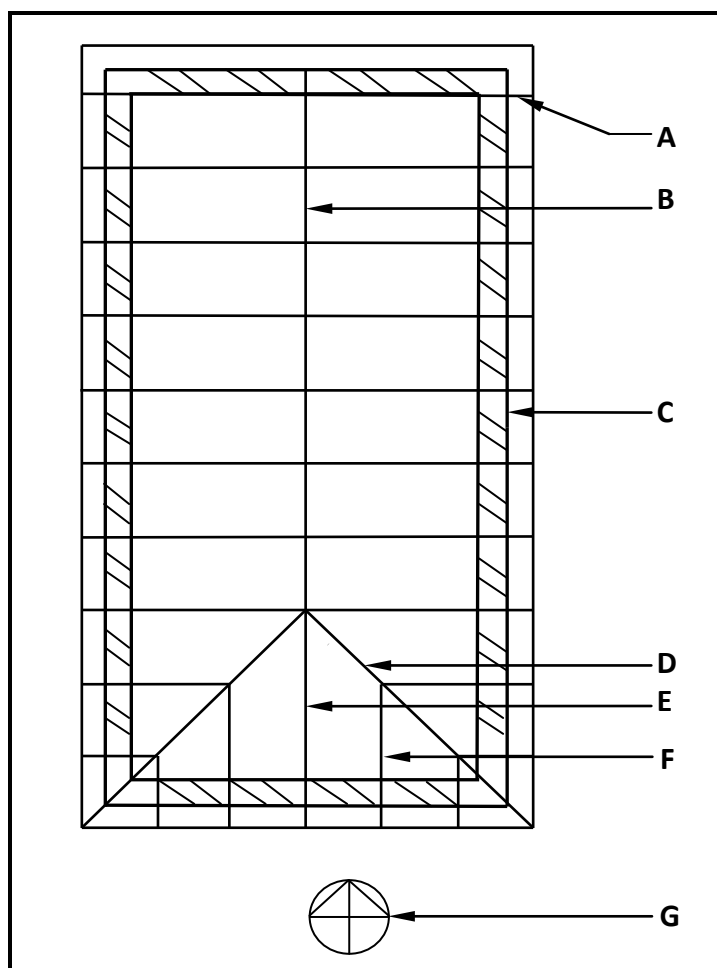

FIGURE 1.3
- 1.3 FIGURE 1.3 below illustrates the top view of a roof layout showing the roof trusses and the external wall of a building. Analyse the illustration and answer the questions that follow.